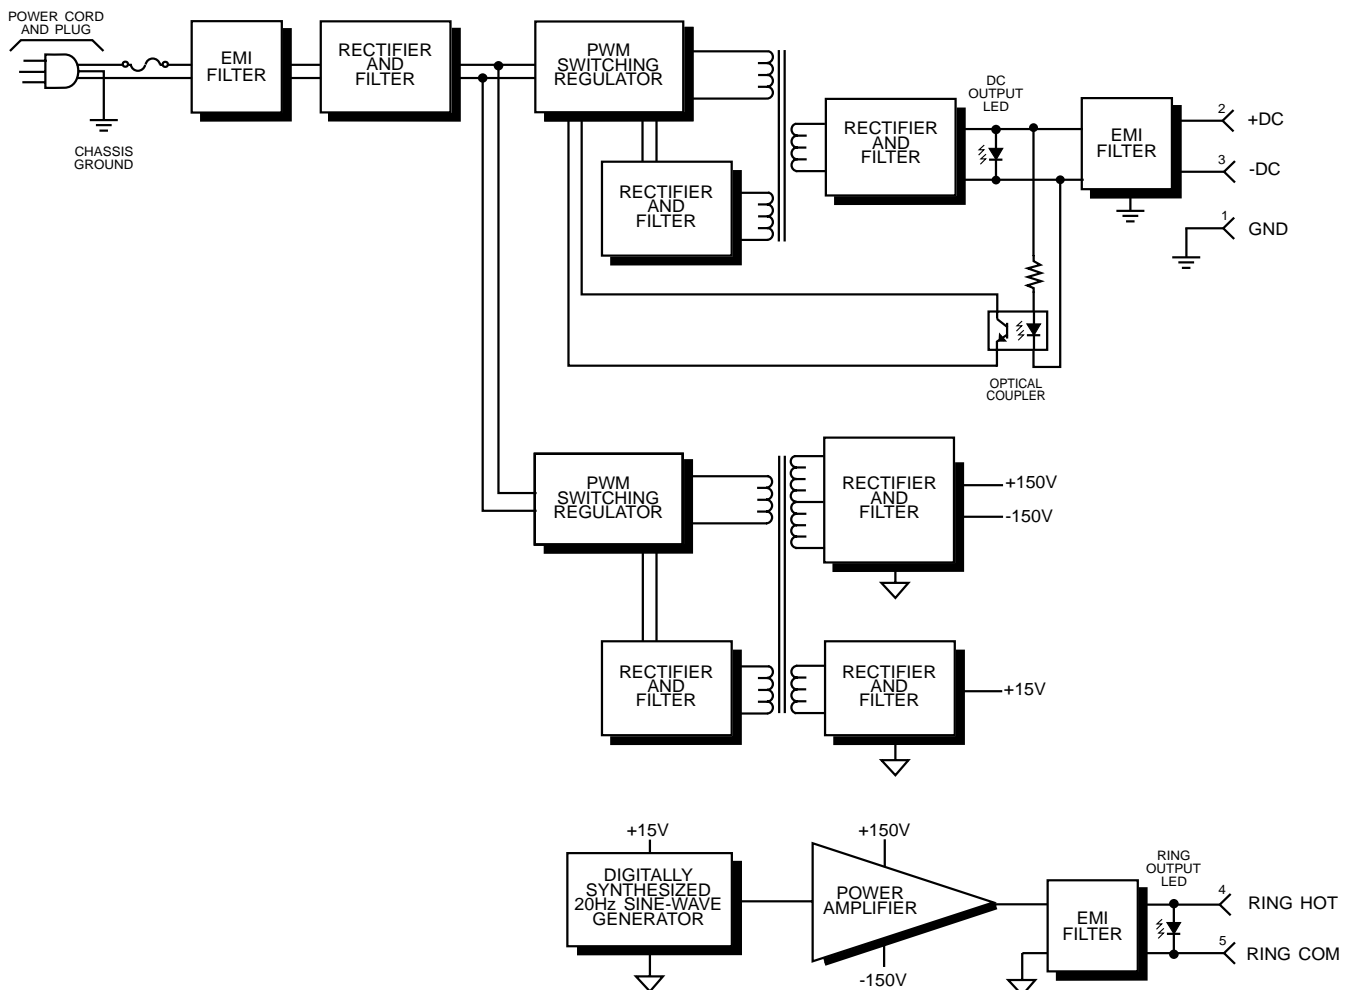

Figure 5 Model 703 Power Supply block diagram.
5.1 GENERAL The circuit description is intended to familiarize you with the Model 703 for engineering and applications use. Repairs to the unit should not be attempted as they will expose you to dangerous voltage levels. Please refer to the block diagram, Figure 5, when reading this technical description.